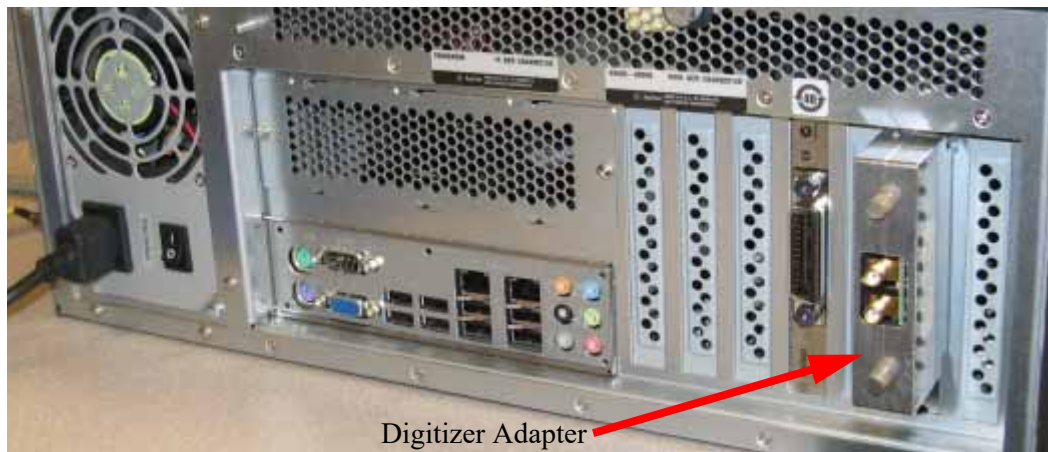

Figure 3 Connect adapter to back of PC digitizer card
- 1 Without power applied, connect the digitizer adapter to the back of the PC digitizer card, as shown in Figure 3.